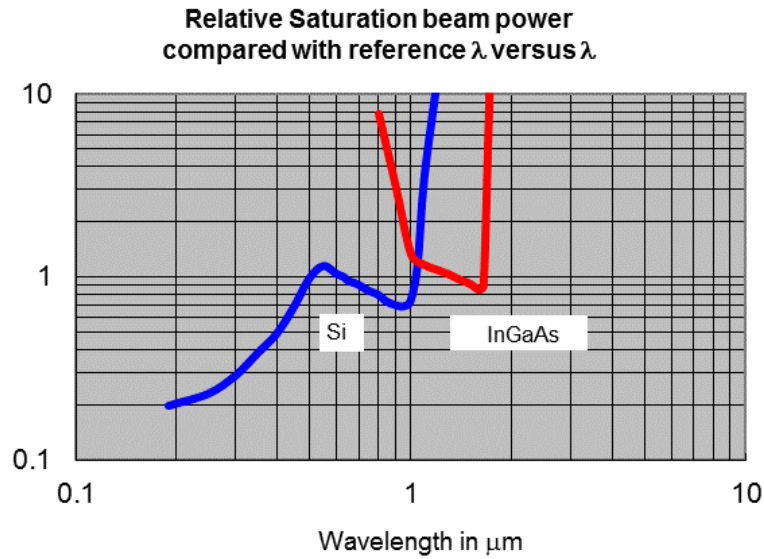

Fig. 5.9: Relative Saturation beam power compared to reference λ of 675 nm for Silicon units or 1310 nm for InGaAs
- For other wavelengths multiply the values indicated by the factor shown in Figure 5.9. The damage limits given above still apply.